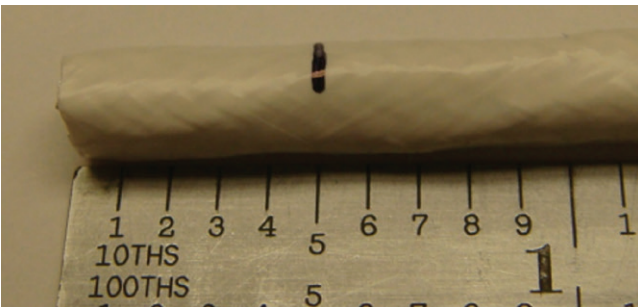

Figure 43: Marking the cable
3. Measure and mark the cable 0.5 inch from the receptacle end of the cable (Figure 43).